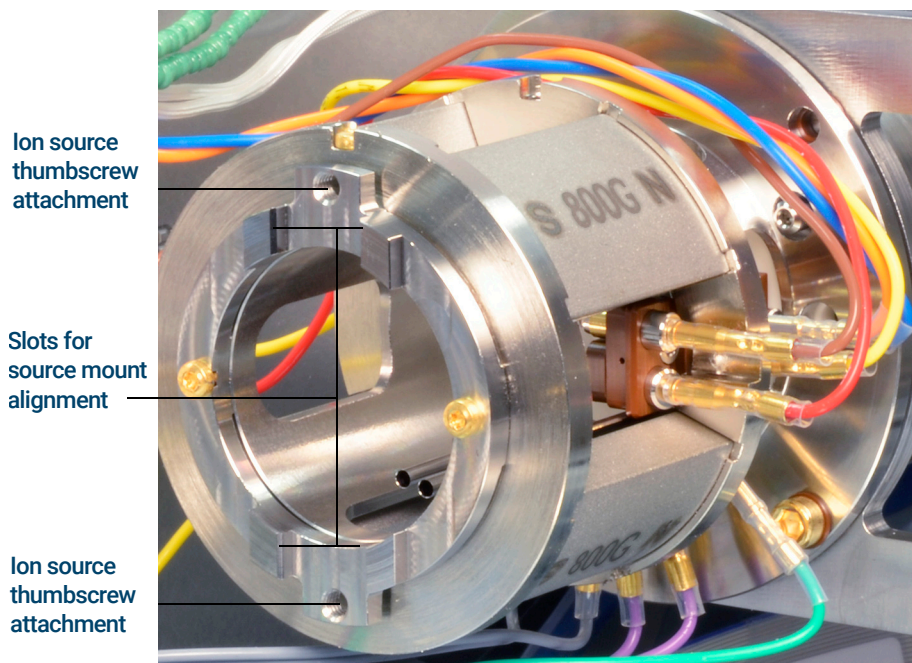

Figure 25. The ion source radiator
- 3 Align the ion source so that the slotted opening for the lens stack, where the lens numbers are visible, is on the right side. Also, position it so the two attachment tabs of the source mount align with the corresponding slots in the source radiator. (See **Figure 25**, “The ion source radiator,” on page 97.) Slide the ion source into the source radiator until resistance is felt.
- 6 Install and hand-tighten the source thumbscrews. (See **Figure 25.**) Do not overtighten the thumbscrews.